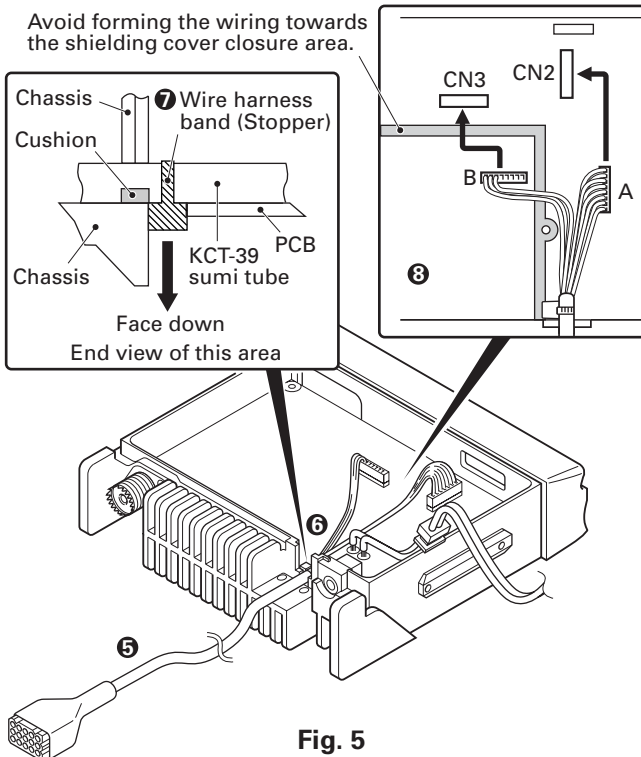

Fig. 5
3. Insert the KCT-39 cable (❺) into the chassis (❻). The wire harness band (❼) must be inside the chassis and face down.
4. Connect the KCT-39 to the TX-RX unit as shown in Figure 5 (❸).